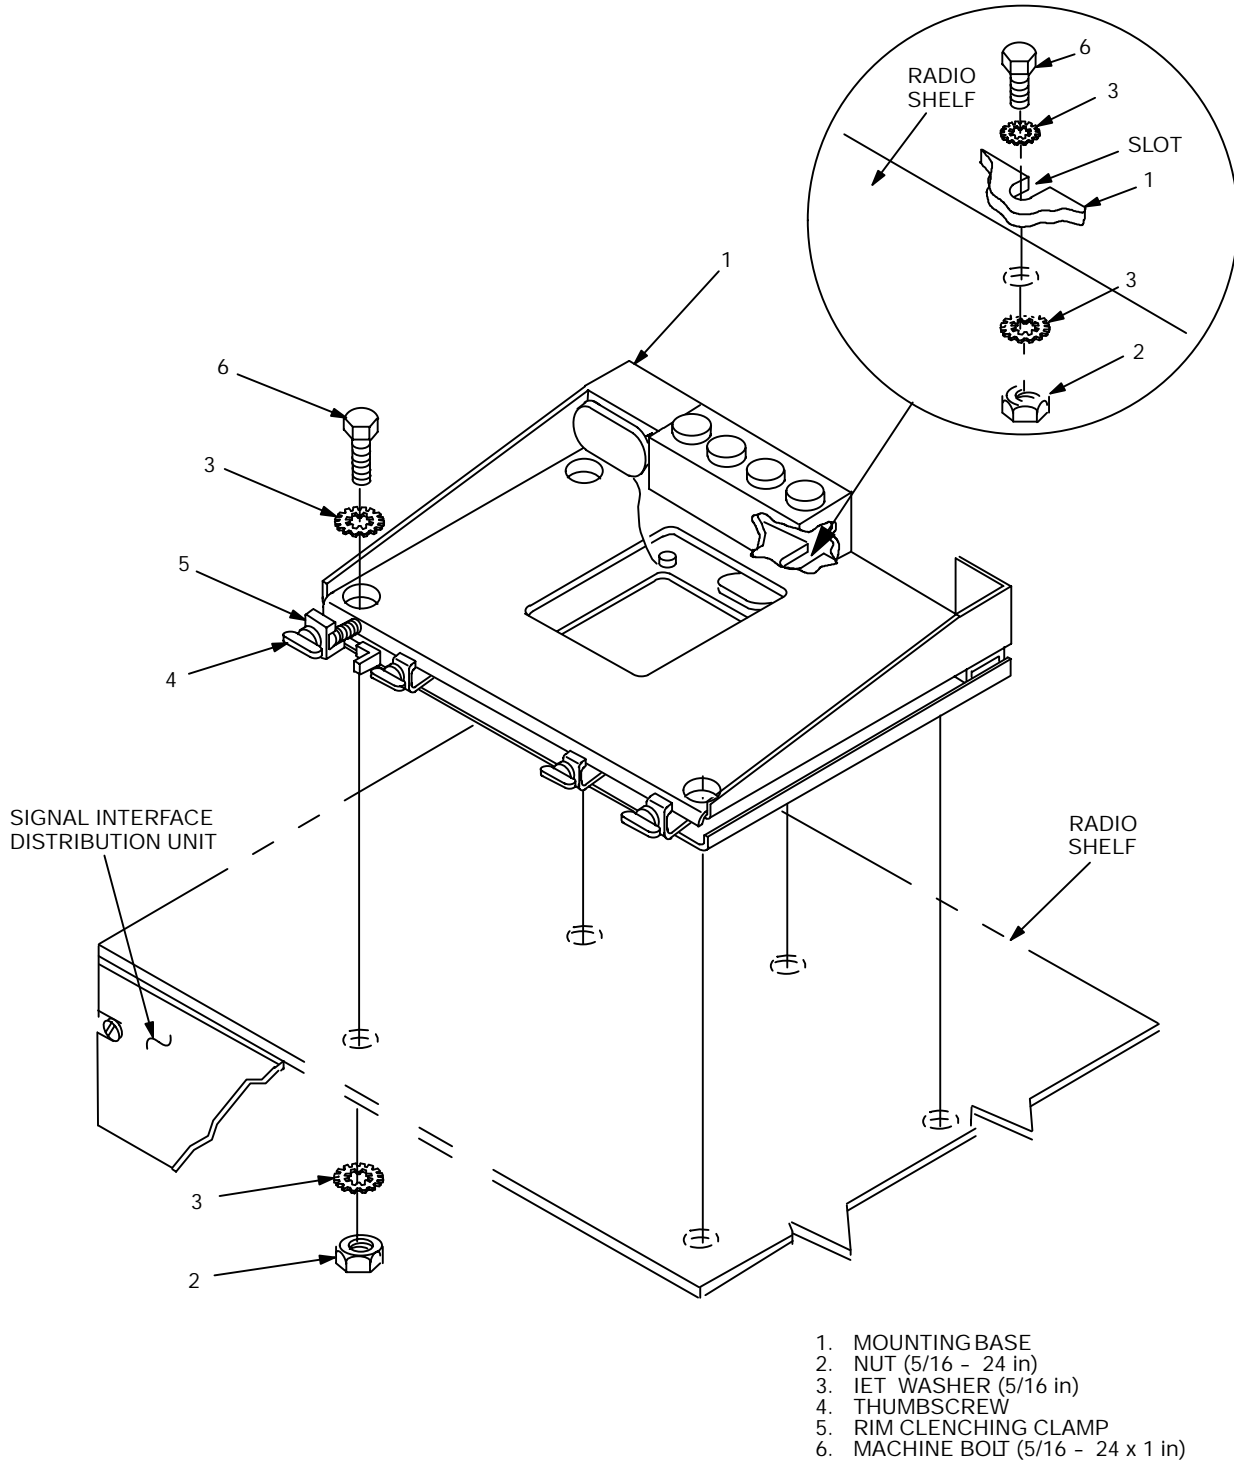

Figure 5- 4. Mounting Base Installation
5.2 Installation of Mounting Base, Electrical Equipment MT- 6352/VRC (mounting base). Remove and retain attaching bag of 5/16 in mounting hardware for installation. To insure good electrical grounding, any rust, corrosion or paint around mounting holes in radio shelf should be removed before installing the mounting base. See Figure 5- 4 and perform the following steps